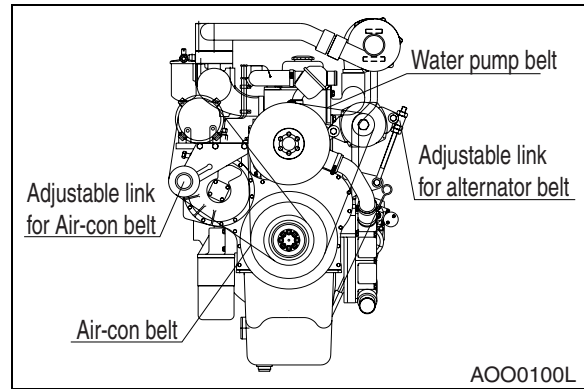
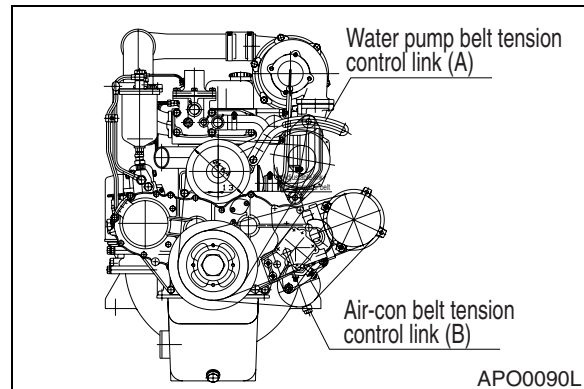

Figure 55 (S/N 3001 thru 4000)
Figure 56 (S/N 4001 and Up)
1. Apply 10 kg (22 lb) of force to midpoint of belt. (Figure 55 and Figure 56). The belt should deflect 10 mm (0.4"). If belt deflects more than this, loosen control link to tighten belt tension until deflection is 10 mm (0.4"). Inspect belt for damage. If belt is damaged, replace it.